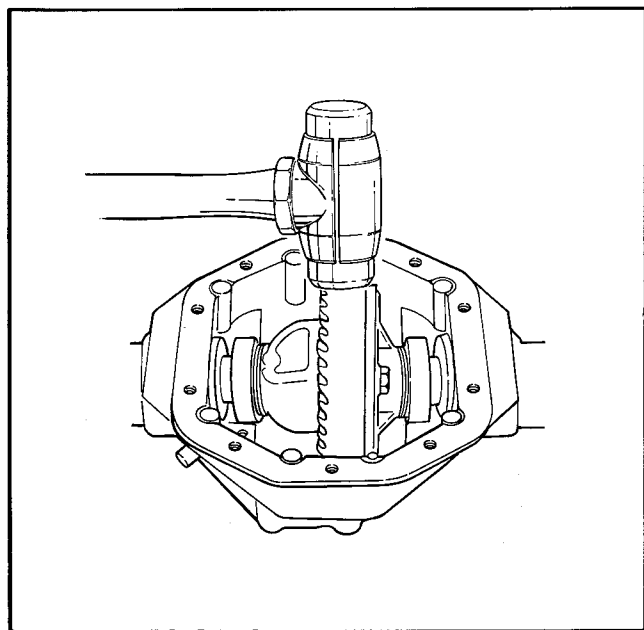

Figure 4-17 – Installing Differential Assembly
- m. Install ring gear carrier assembly (6) along with bearing cups (7) into housing aligning ring and pinion gears to avoid nicking teeth. Tap ring gear lightly with soft hammer to seat carrier assembly, in housing. See Figure 4-17.